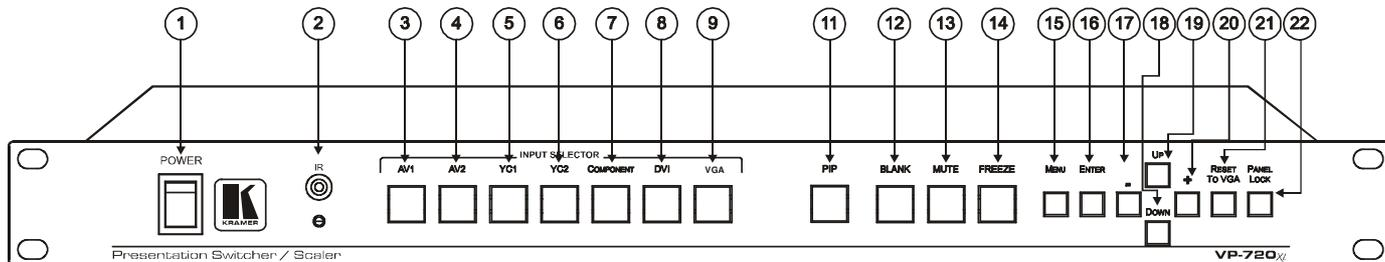
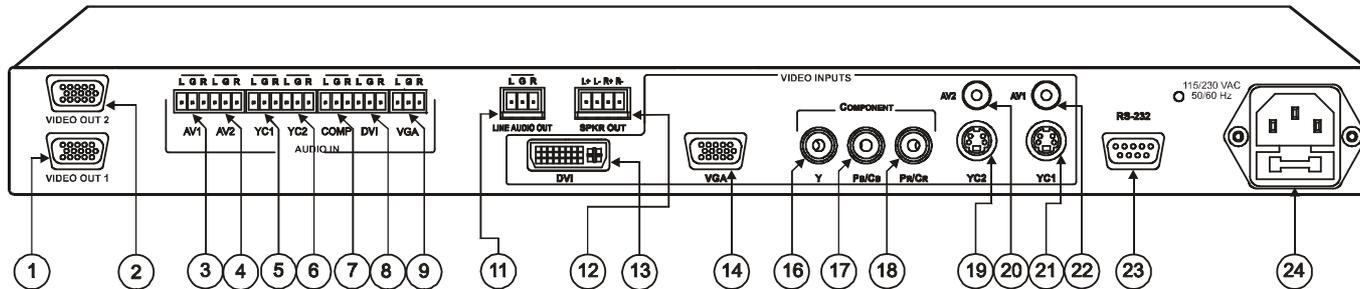

Figure 3: VP-720xl Presentation Switcher / Scaler Front Panel1
Figure 4: VP-720xl Presentation Switcher / Scaler Rear Panel2
- Figure 3 and Figure 4 illustrate the **VP-720xl** *Presentation Switcher / Scaler*